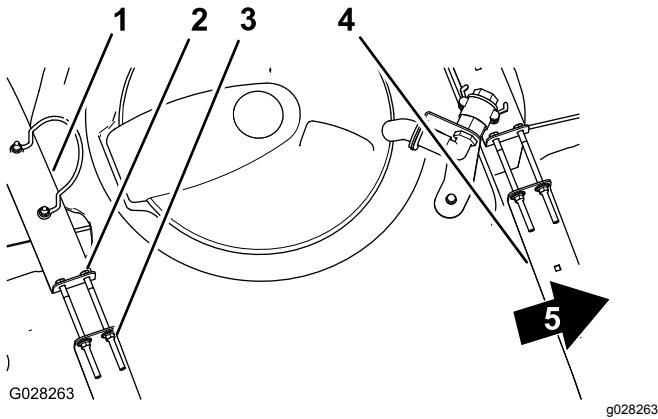

Figure 85
2. Check to see if there is any movement between the tank straps and the tank (Figure 85).
3. If the tank straps fit loose to the tank, tighten the flanged locknuts and bolts at the top of straps until the straps are flush with the surface of the tank (Figure 85).